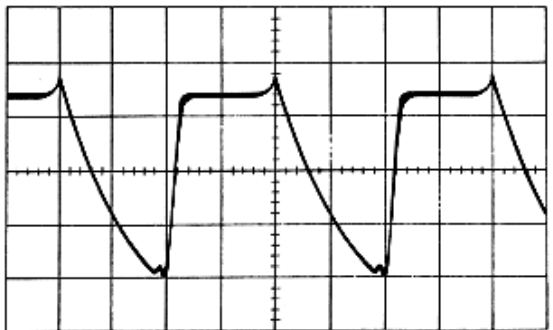

Figure 6.11 – Q3, Collector Waveform
e. Reconnect oscilloscope to collector of 500 kHz multivibrator stage Q3 (or top of R7). The observed waveform should resemble that shown in figure 6.11.